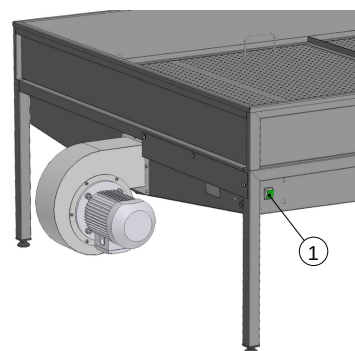

Figure 8: ON-OFF switch
12. Turn the blower on (see Fig.8) and ensure that air blows upwards from the perforated trays. Turn the blower off.
2. Once caramel coated popcorn is ready to be cooled and separated, set ON-OFF switch (1), see Fig.8, to ON position (I).
6. Set the switch to OFF position (O).